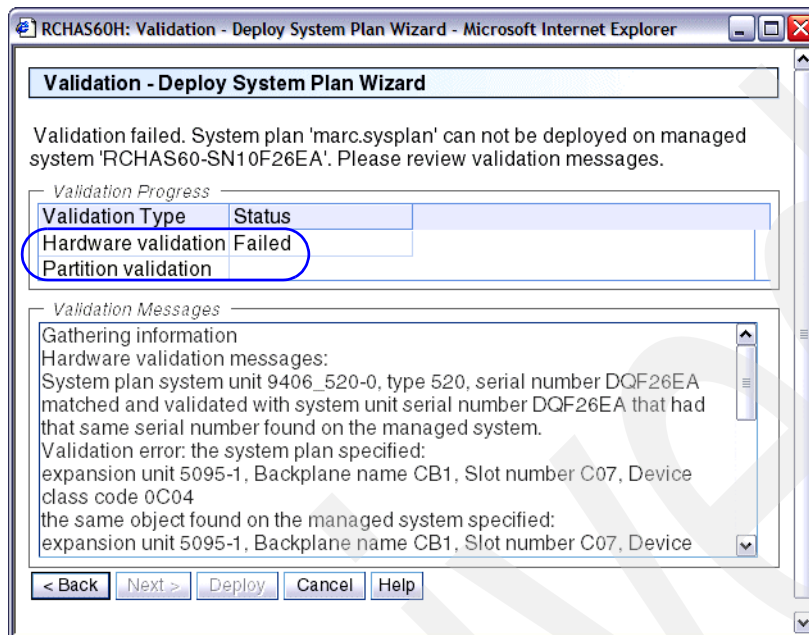

Figure 3-22 Deployment validation summary (hardware failed)
- The first example is related to a system plan that fails to deploy due to hardware errors. See our example in Figure 3-22, which shows unsuccessful hardware validation.